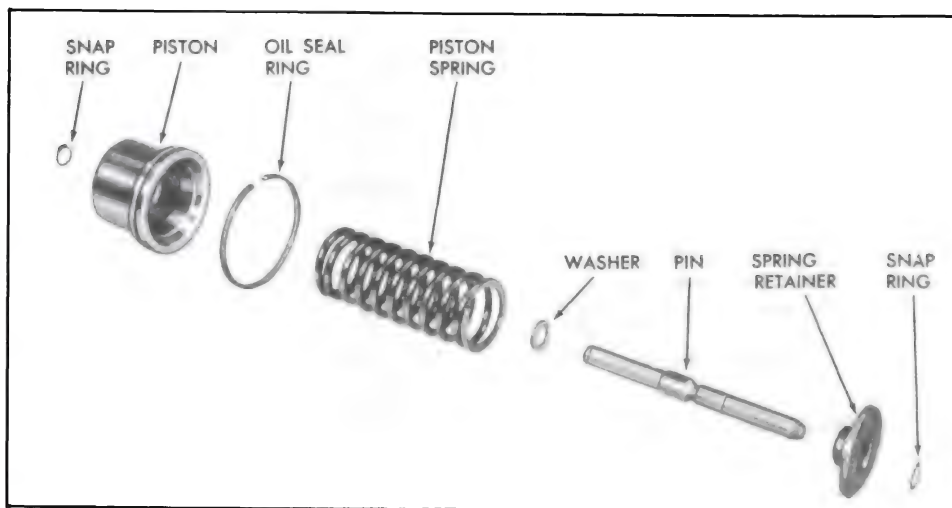

Figure 5-571
1. Inspect servo pin for damaged snap ring groove. See Figure 5-571.